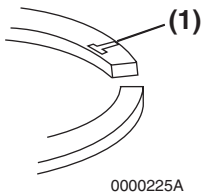

Figure 6-131
Note: Reinstall the top and second piston rings with the stamped “makers mark” (**Figure 6-131, (1)**) facing the top of the piston. The “makers mark” may vary in appearance but will always be located on the top surface of the piston ring adjacent to the piston ring gap. The oil ring and oil ring expander can be installed either side up.